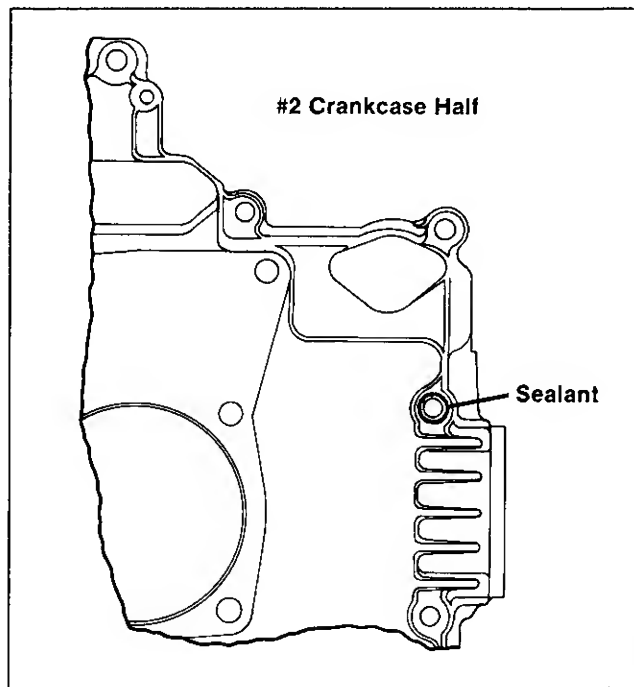

Figure 8-13. Applying Crankcase Sealant—
2. Apply a 1/16" (1.5mm) DIA. sealant bead to the #2 crankcase half as shown in Figure 8-13 and 8-14. Follow sealant manufacturer's instructions regarding "setting." Recommended Sealants are listed in the table below.